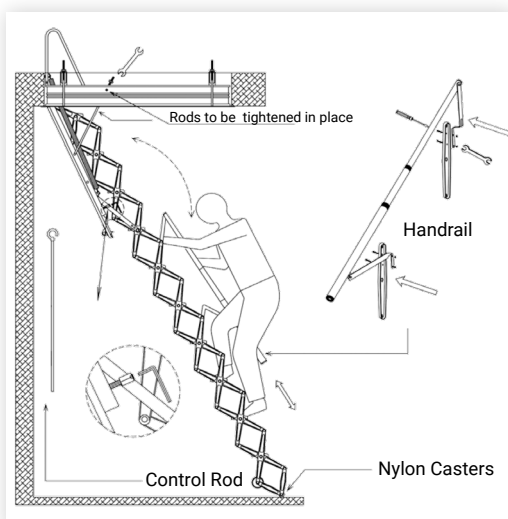

figure 9
4. Use the control rod to open the ladder from below, by inserting the hook on the control rod into the hook eye on the lid and pulling it open. Then extend the ladder until it reaches the floor. Securely rest the ladder's two nylon casters firmly on the floor. Should the ladder need to be adjusted to the stud height of your house, you must adjust the rods, by either screwing down or screwing out both M10 nuts with a spanner. (The nuts must always rest simultaneously on the ratchets). Adjust treads to level. (Figure 9)
5. In the case that you have to fit a handrail on the ladder, you will need to fit it on when the ladder is unfolded. Place the handrail next to the ramp, with the "L" - shaped lever beside the bottom pre-drilled lever and the straight lever. Once the rail is placed correctly on the ladder you will need to use a screwdriver and spanner to bolt the rail to the side of the stair. (Figure 9)